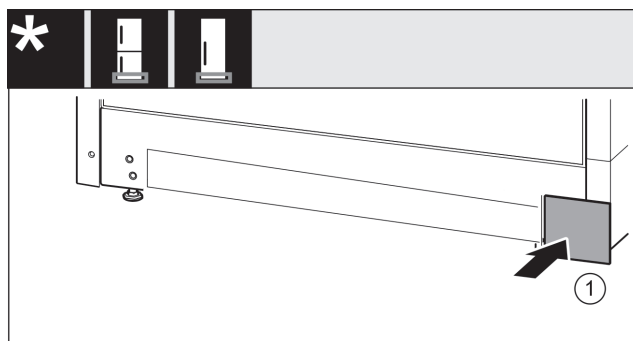

Fig. 16
- Put back the cover on the other side. *Fig. 16 (1)*